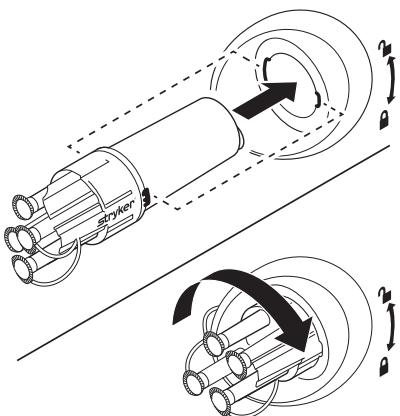

Figure 3 Install and Lock Manifold
- Align the keyed manifold with the slotted receptacle and push the manifold into the receptacle of the desired canister of the rover (Figure 3).